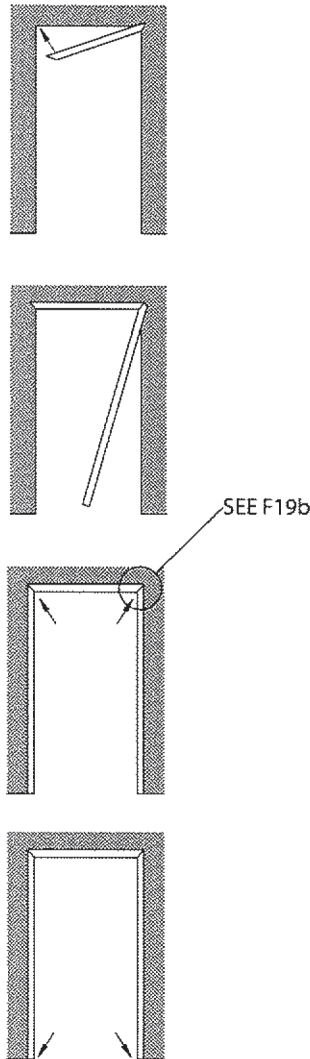

FIGURE 19A
**Installation Sequence:** Installation varies from manufacturer to manufacturer. Consult the supplying manufacturer's literature for exact instructions. A typical installation cycle may be as follows, Figure 19a.